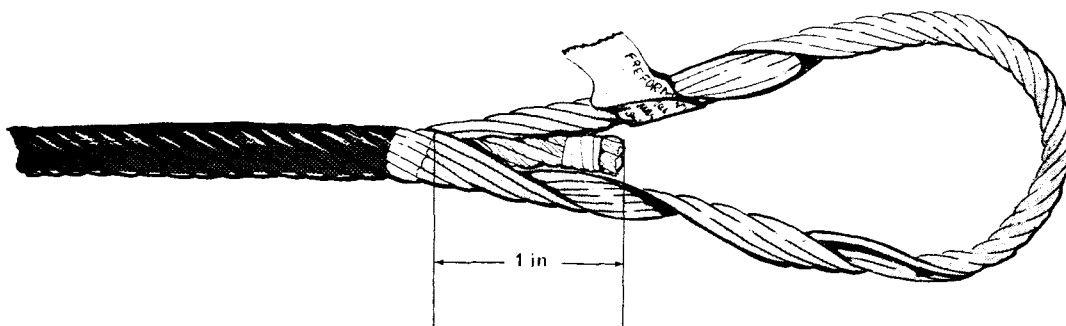

Fig 10.13 Fitting a Dead-end (4)
- To complete the fitting, cut the rope one inch from the crossover mark (Fig 10.13).